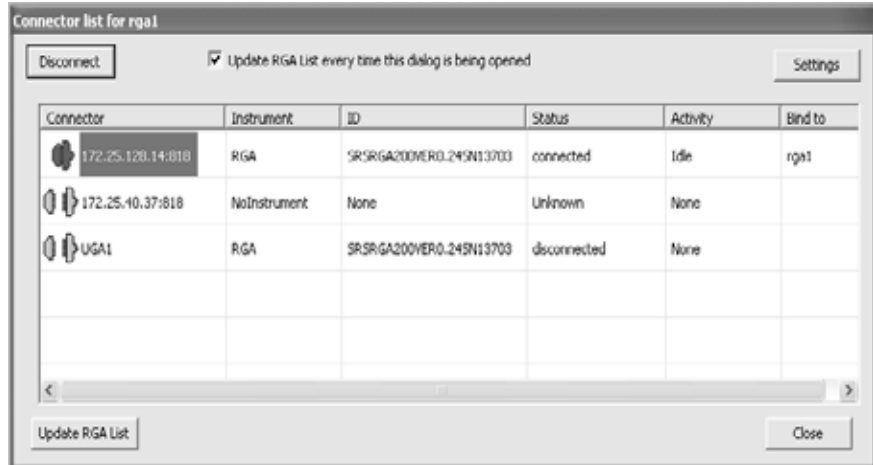

Fig. 2-30. Screenshot of RGA connection dialog box for Ethernet.
- Click the connection button (  ). The dialog box as seen in Fig. 2-30 will appear with Ethernet port information.